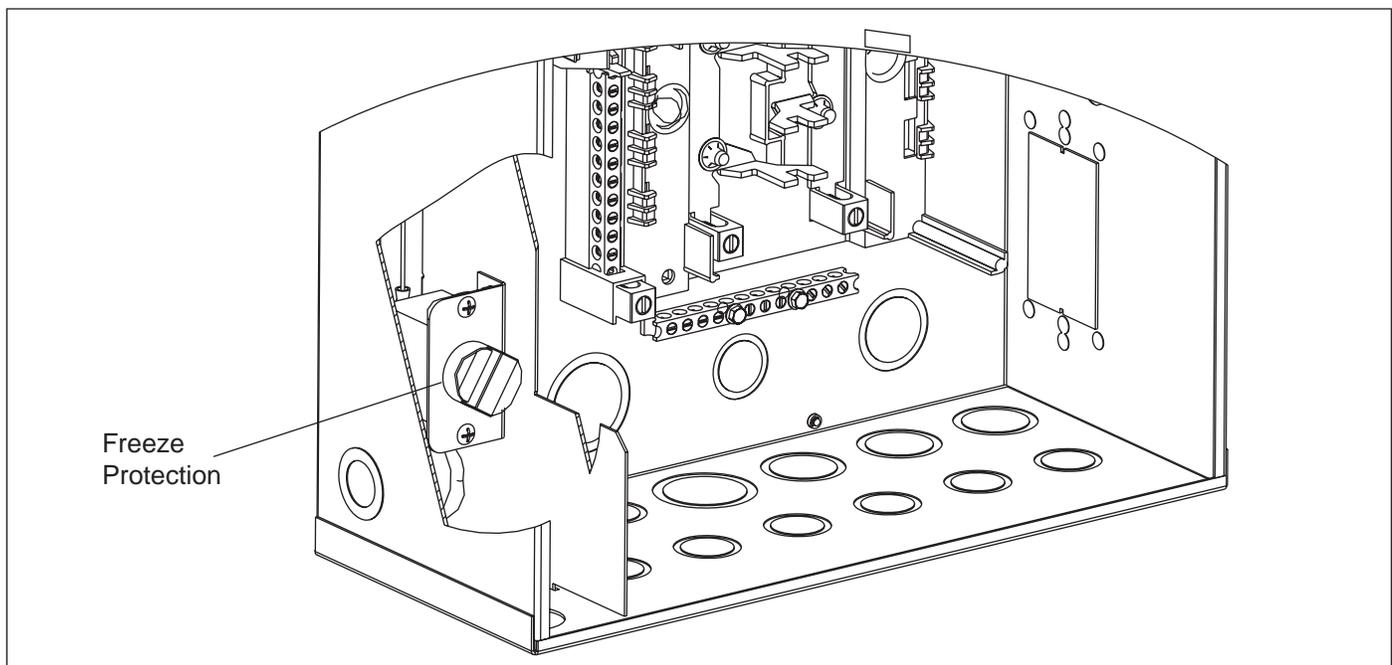

Figure 3. Freeze Protection
1. The system is designed with built-in freeze protection circuitry, shown in Figure 3. When freeze conditions exist (air temperature falls below sensor setting) the filter pump will turn ON and run until the time clock duration is reached. If freeze conditions still exists after the time clock duration has passed, the pump will remain on. When freeze conditions exist on a two-speed pump installation (air temperature falls below sensor setting), the filter pump will turn on and run at high speed until the low speed section of the time clock duration is reached. If freeze condition still exists after low speed time has passed, the pump will return to high speed. Sensor setting is located behind front panel.